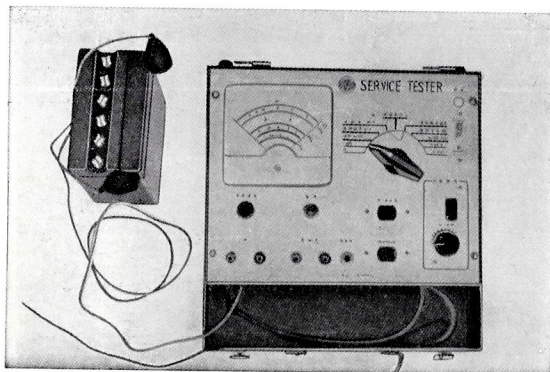

Fig. 5.88
**Tachometer switch:** The tachometer switch should be turned "ON" only when using the tachometer; in all other cases, turn "OFF". (Fig. 5.88, 90)